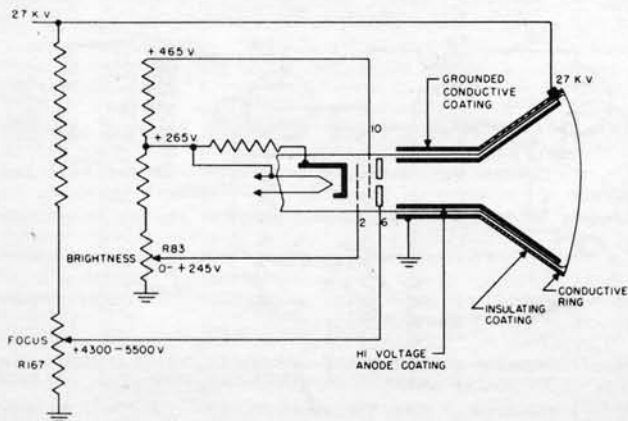

Fig. 9. Picture Tube Circuit
**12. PICTURE TUBE (SEE FIGURE 9)**—A Type 5TP4 projection cathode ray tube, V9, is used. This makes use of electrostatic focus and magnetic deflection at a high voltage anode potential of 27 kilovolts. An inner conducting surface on the bulb extending down into the neck is connected to the high voltage anode cap to act as the anode element. The external outer surface of the tube from the high voltage anode terminal to the neck is covered with a special insulating coating to reduce the possibility of voltage breakdown, from high humidity. *This surface should not be handled during service adjustment.* A very thin layer of sprayed metal on the inner screen surface is used to prevent ions from destroying the screen making an ion trap in this tube unnecessary.
In Figure 9 is shown the approximate voltage applied to each tube element.